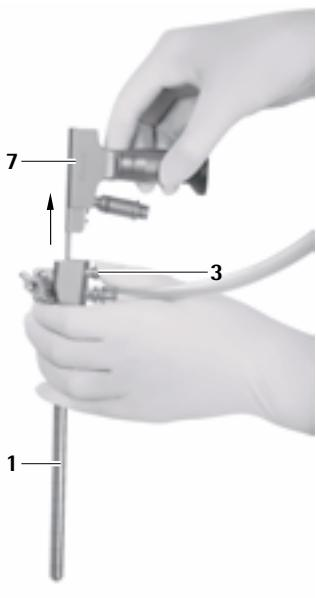

Fig. 11
- Press release button 3 and remove endoscope 5 from the MINOP inVent trocar 1, see Fig. 11.